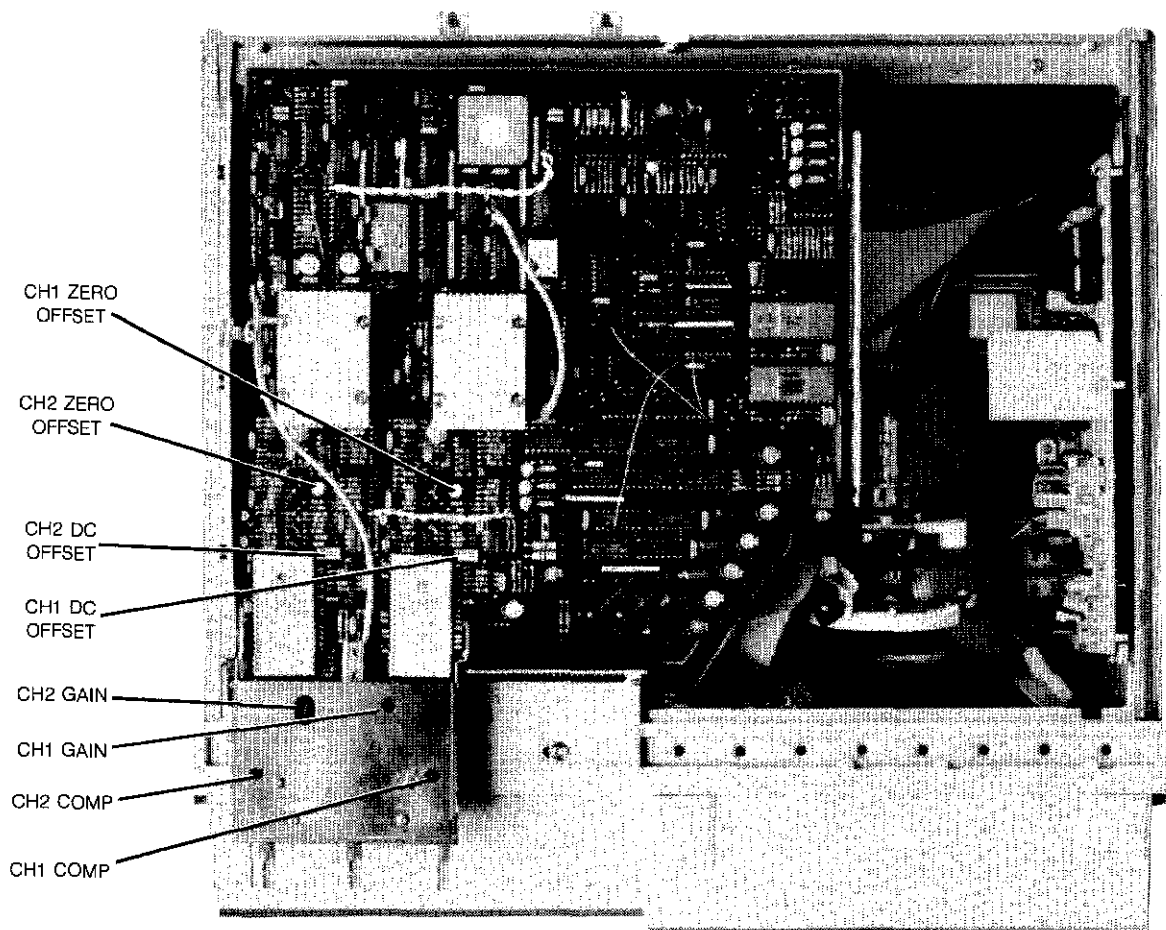

Figure 4-10. Analog Board Adjustment Locations.
5. Display Channel 1 (single graph with grid graticule) and position trace to center graticule using CH1 ZERO OFFSET (A4R239) (figure 4-10).